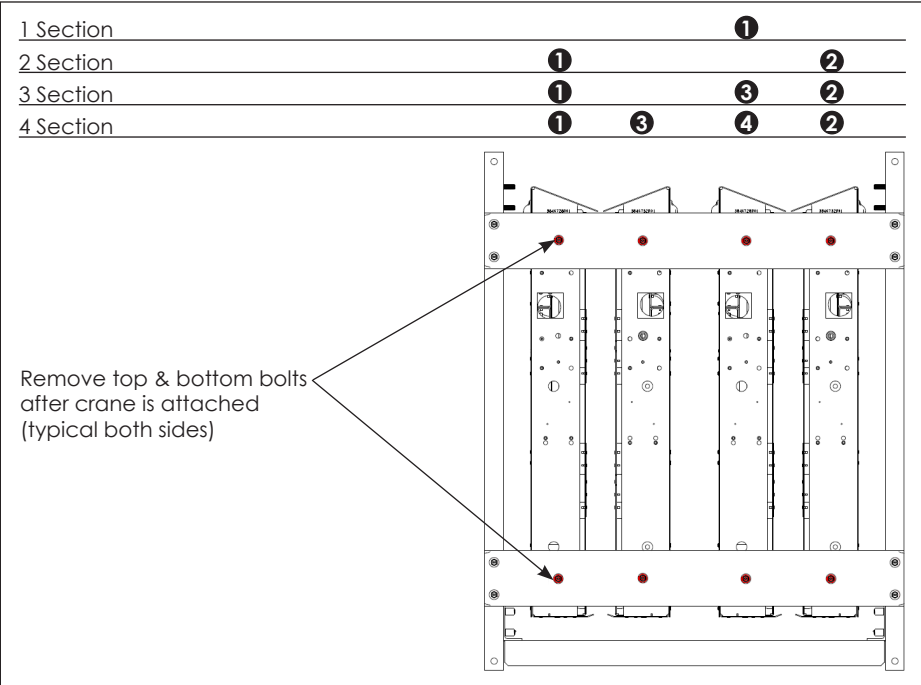
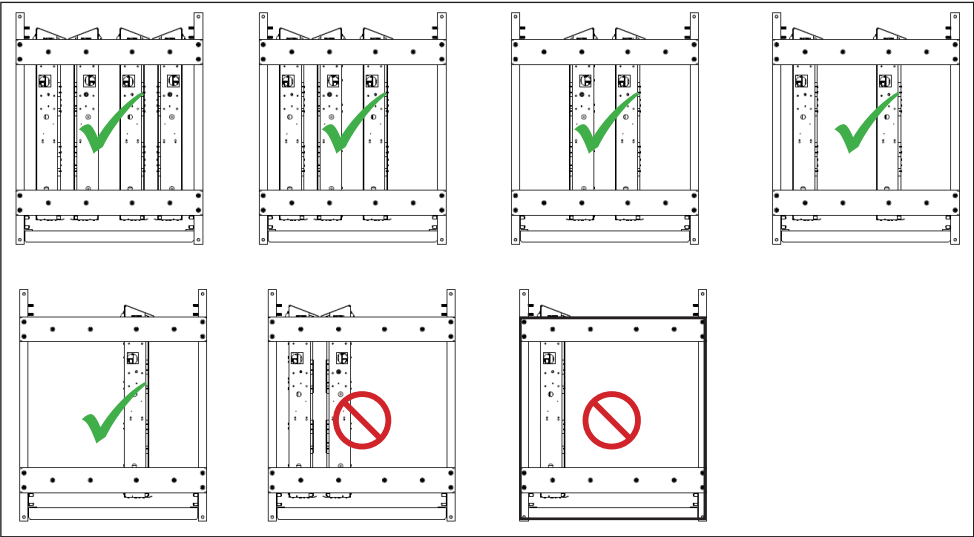

Figure 4: Section Lift Order (Front View)
Figure 5: Stable vs. Unstable Configurations
2. Use the security bit supplied in the toolkit to remove the beverage shroud. Insert lift eyes in the top of the first display section. Refer to the **RTX-2101/2801 Series Section Basics Quick Guide (DD3886326)**. Attach the crane to the lift points. Refer to **Figure 4** for the section lift order and to **Figure 5** for proper configurations.
**Figure 5** shows stable and unstable configurations.